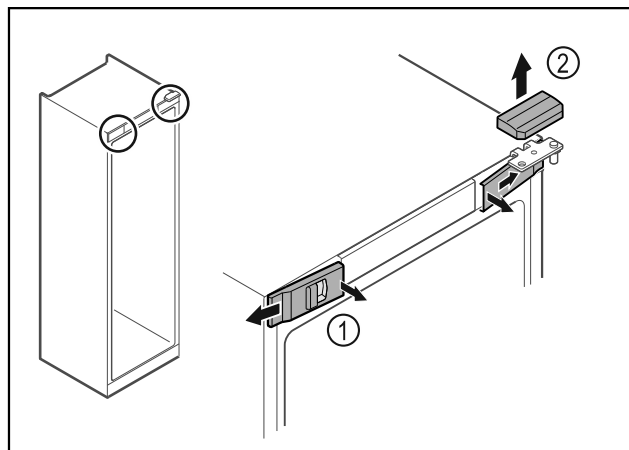

Fig. 9
- ▶ Unlatch the front covers Fig. 9 (1) on the inside and remove them sideways.
- ▶ Lift off the upper cover Fig. 9 (2).